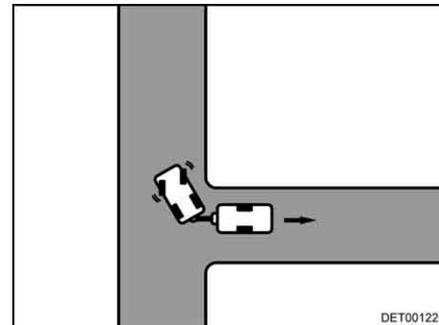

Fig. 21 Steer to the right
- Steer to the right and reverse with caution (Fig. 21).